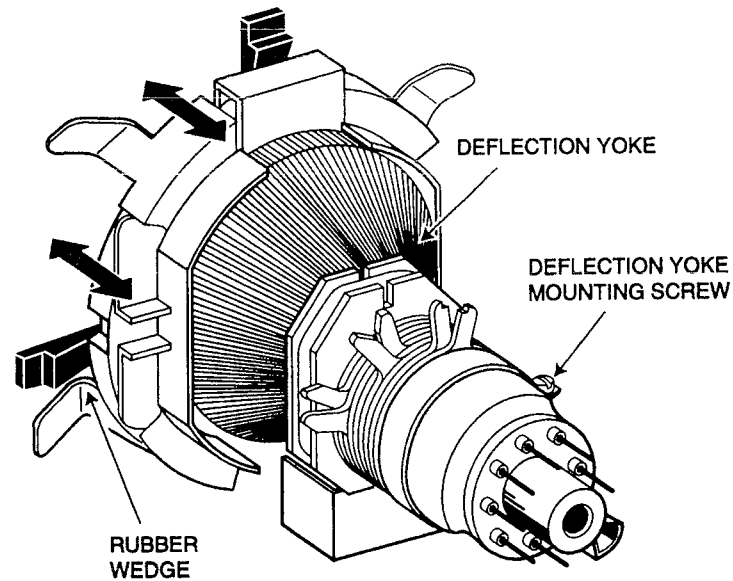

Figure 1. Deflection Yoke Movement
1. When replacing picture tube or deflection yoke, mount deflection yoke and purity-convergence magnets assembly properly. See Figure 1. Position the picture tube facing east or west. Demagnetize the picture tube and receiver using an external degaussing coil. Set receiver to Service Menu "NO. 41" (no vertical sweep) position while degaussing.